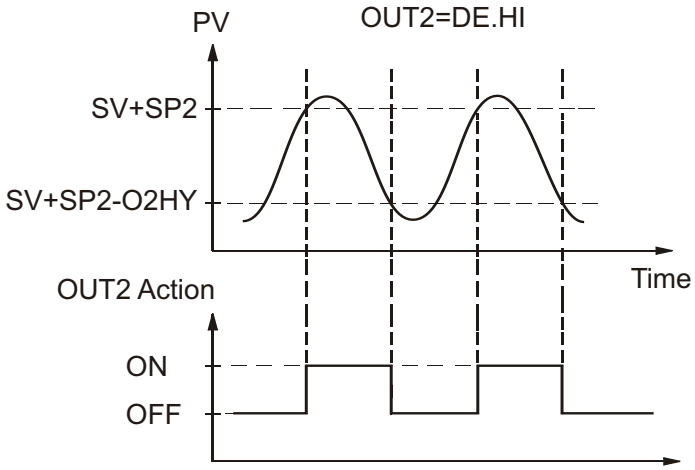
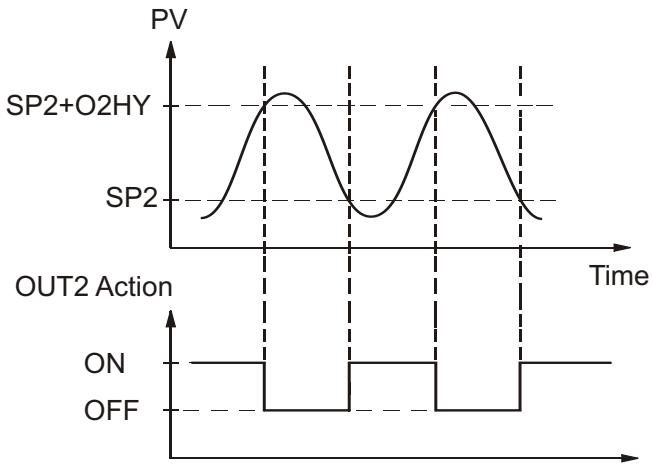

Figure 3.3 Output 2 Deviation High Alarm
Figure 3.4 Output 2 Process Low Alarm
**Output 2 ON-OFF Control (Alarm function):** Output 2 can also be configured as an alarm. There are 4 kinds of alarm functions that can be selected for output 2; these are: DE.HI (deviation high alarm ), DE.LO (deviation low alarm ), PV.HI (process high alarm ) and PV.LO ( process low alarm ). Refer to Figure 3.3 and Figure 3.4 for the description of deviation alarm and process alarm.